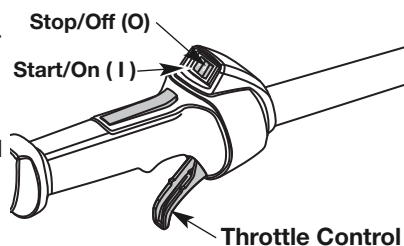

Fig. 10
NOTE: There is no need to turn the unit on. The On/Off Stop Control is in the ON (I) position at all times (Fig. 10).
2. Press and hold On/Off Stop Control in the OFF (O) position until engine comes to a complete stop (Fig. 10).